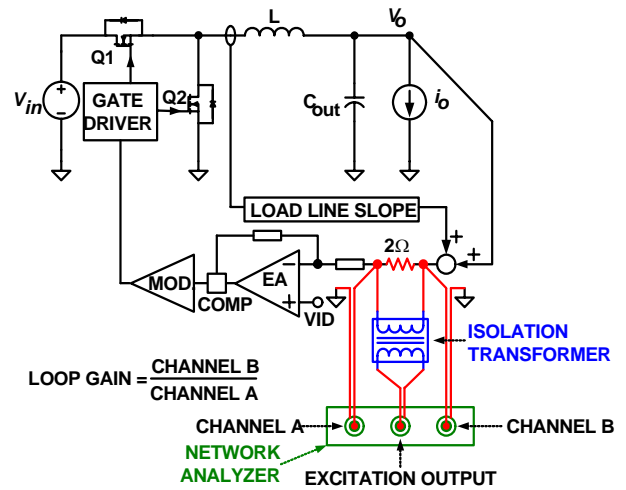
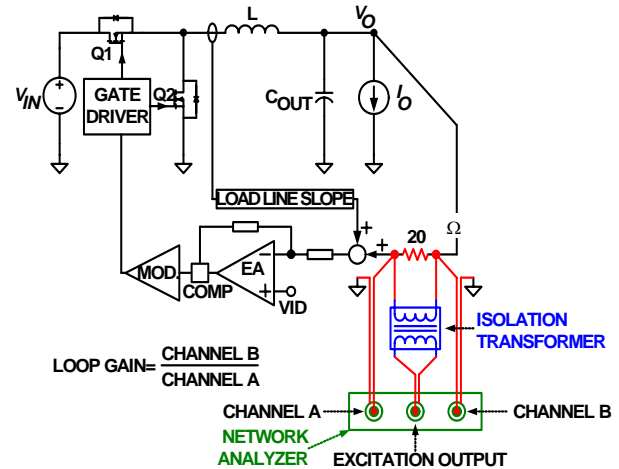

FIGURE 24. LOOP GAIN $T1(s)$ MEASUREMENT SET-UP
FIGURE 25. LOOP GAIN $T2(s)$ MEASUREMENT SET-UP
A VR with active droop function is a dual-loop system consisting of a voltage loop and a droop loop which is a current loop. However, neither loop alone is sufficient to describe the entire system. The spreadsheet shows two loop gain transfer functions, T1(s) and T2(s), that describe the entire system. Figure 24 conceptually shows T1(s) measurement set-up and Figure 25 conceptually shows T2(s) measurement set-up. The VR senses the inductor current, multiplies it by a gain of the load line slope, then adds it on top of the sensed output voltage and feeds it to the compensator. T(1) is measured after the summing node, and T2(s) is measured in the voltage loop before the summing node. The spreadsheet gives both T1(s) and T2(s) plots. However, only T2(s) can be actually measured on an ISL95831 regulator.